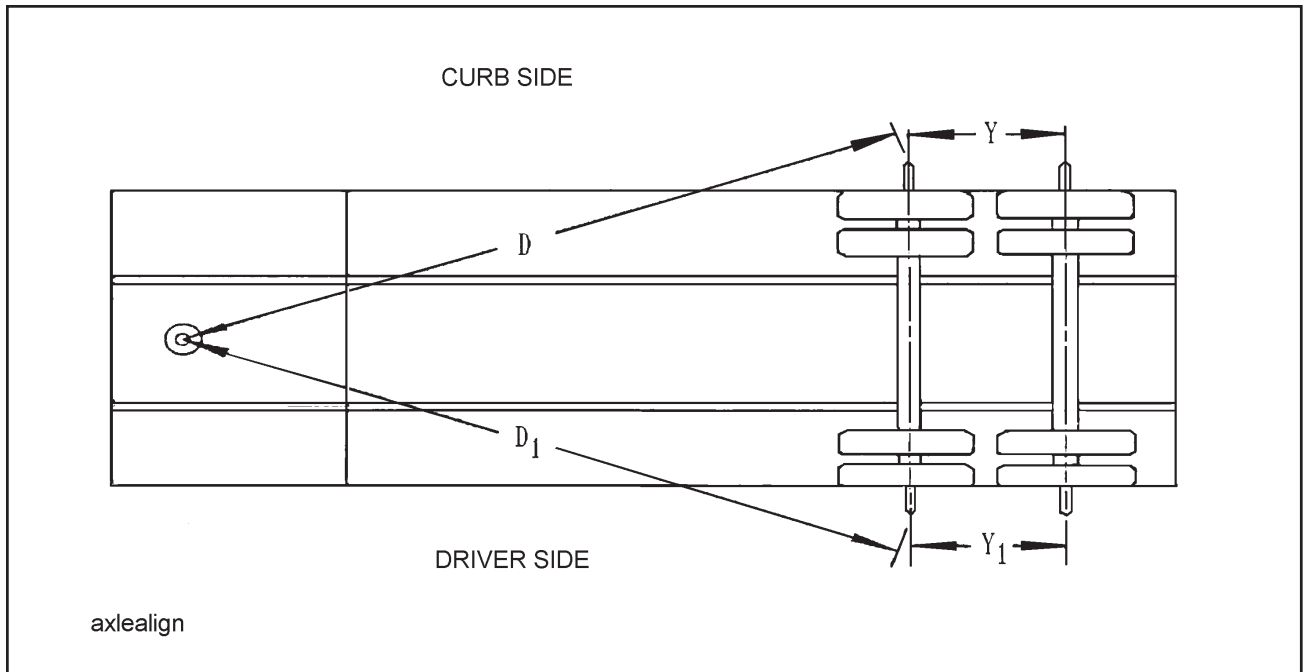

Figure 4-11 Checking Axle Alignment
4. Measure (D) from the plumb bob to the center point on one end of the axle. Record this measurement (**See Figure 4-11**).
5. Measure (D1) to the other end of the axle in the same manner as in **Step 4**. Record this measurement (**See Figure 4-11**).